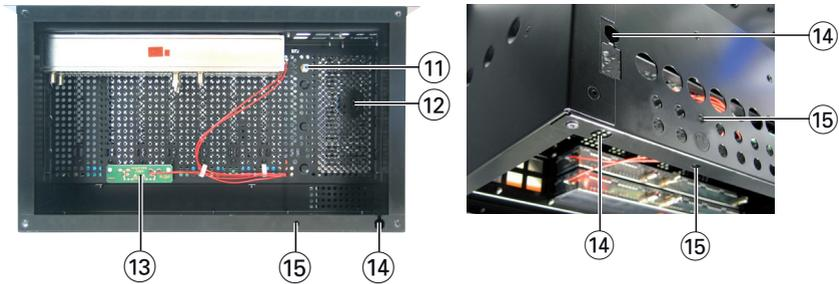
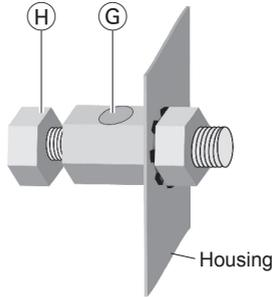

Fig. 4
Fig. 13
- Put the PE wire (Cu 4 mm2 - 20 mm2) into the hole (G) (fig. 13) of the PE connection terminal (15) (fig. 4) and fasten the PE wire with the screw (H) securely.